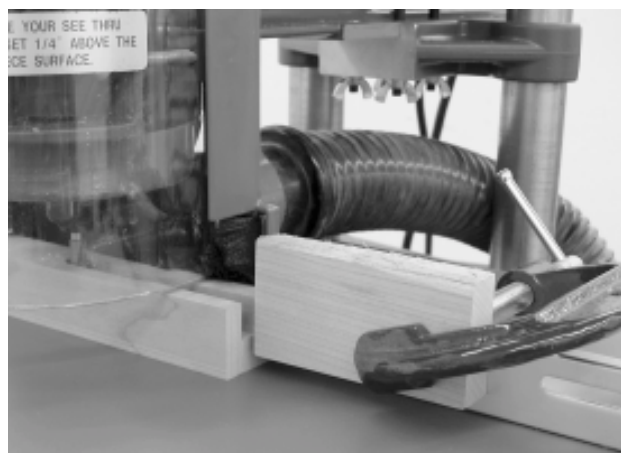

Figure 33. Making a stopped cut for a mortise.
4. Limiting the length of your cut. Mark your workpiece where the stop cut is to start and end. Clamp a stop block or a wooden handscrew clamp onto the Fence to limit the length of your cut. If you're using a stop block, position the block above the worktable so that the sawdust will not be trapped at the side of the stop block (See Fig. 33). If the cut is to be in the center of the workpiece and the workpiece is short enough, use a stop block to limit the travel at both ends.